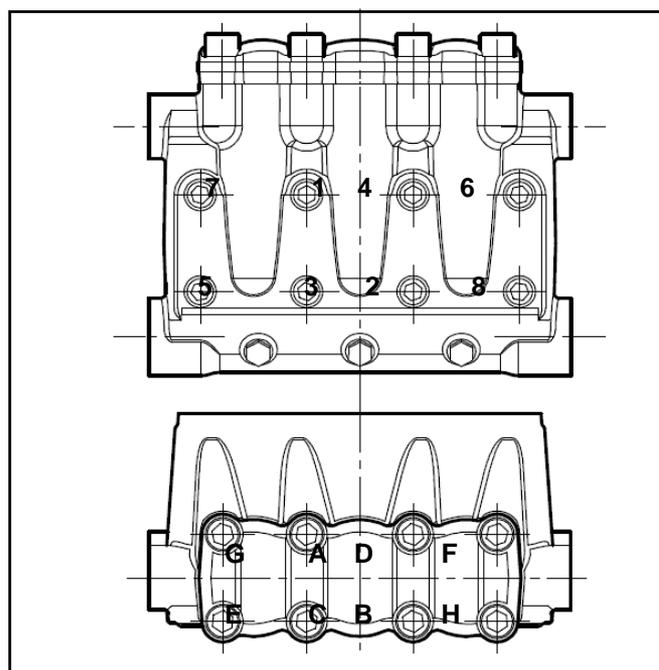

Fig. 34
** The head fixing screws explod.. Pos. 47 must be tightened with a torque wrench respecting the order shown in the diagram in fig.34.
* * * The valve cover fixing screws explod. pos. 45 must be tightened with a torque wrench respecting the order shown in the diagram in fig.34.